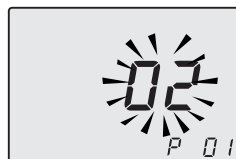
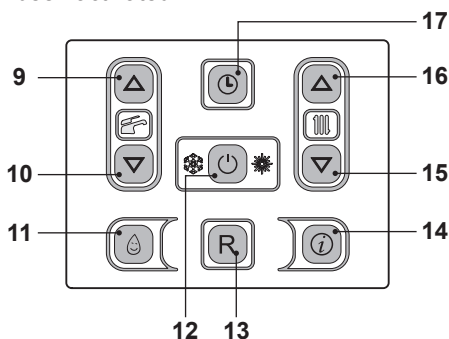
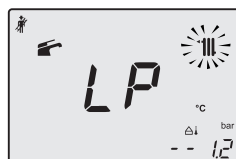

Fig. 9.20
Fig. 9.19
Fig. 9.21
- Enter in "programming mode" by pressing keys 12 - 15 - 16 (Fig. 9.19) for 10 seconds at the same time until the letters **P01** are displayed on the LCD display, indicating that "parameter 01" (Fig. 9.20) has been activated.
- Press keys 15 and 16 (Fig. 9.19) at the same time until the LCD display displays the letters **LP** that alternate with the heating water temperature value (e.g. **45**), indicating the activation of the "chimney sweep function" at minimum output (Fig. 9.21).
- By pressing 16 (Fig. 9.19) it is possible to change power in chimney sweep mode: with the letters **hP** on the LCD display which alternate between the heated water temperature (i.e. **32**), we are in the "chimney sweep function" at the minimum power during heating (Fig. 9.22).
- Press keys 12 - 15 - 16 (Fig. 9.19) at the same time again to exit the "chimney sweep mode" and return to the previously set boiler status (Fig. 9.25).